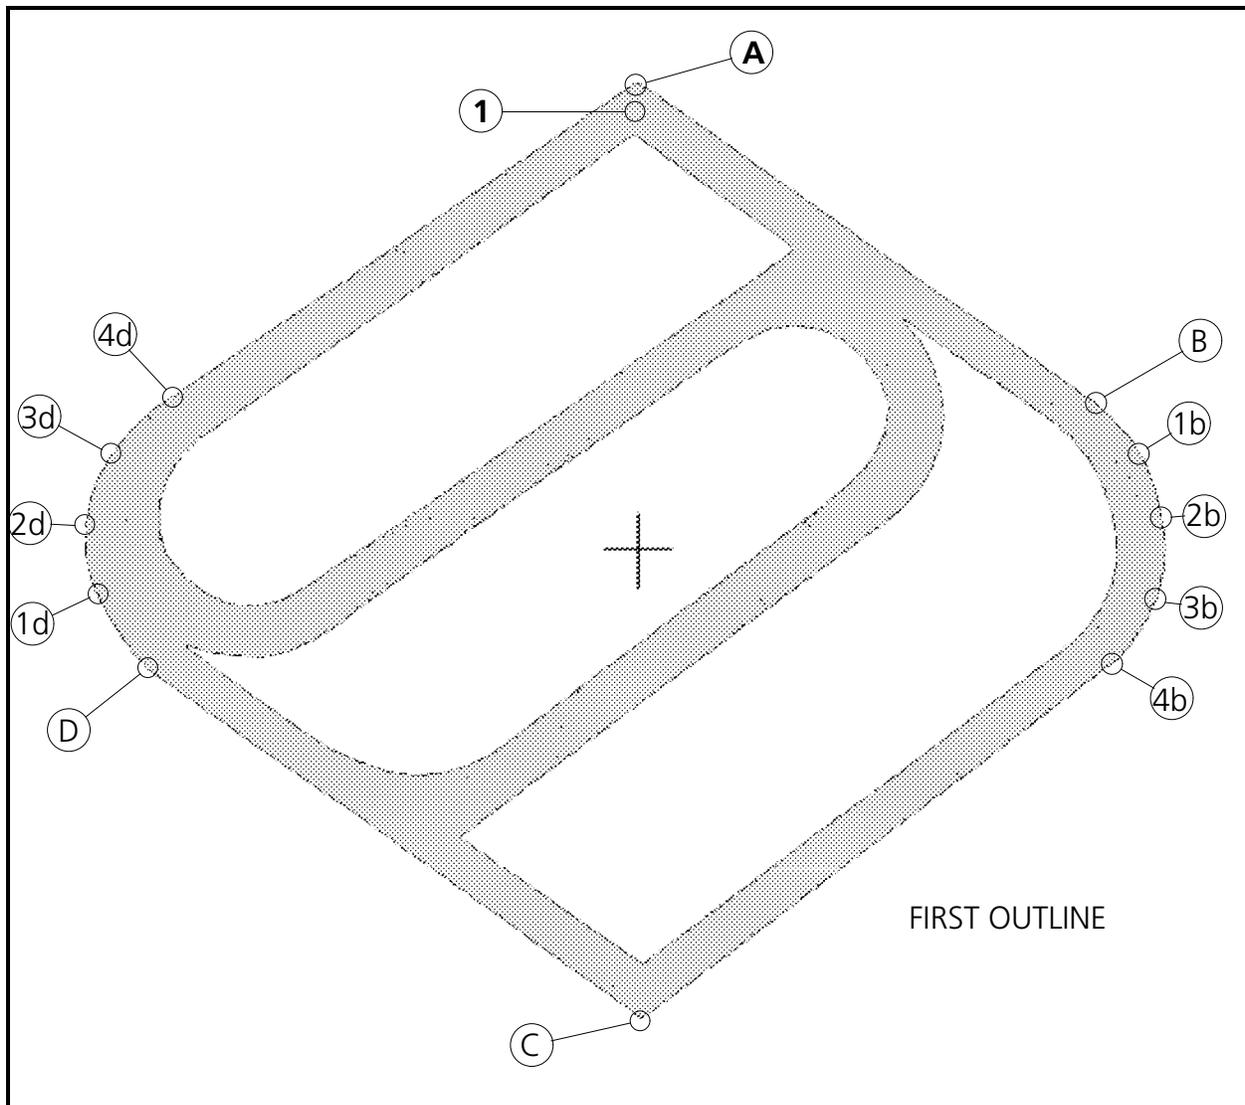

Figure 6-83
2. Click in the area in the shape identified as location 1 in Figure 6-83 and enter a Mk1.
4. Generate the lock stitches at location 1 in Figure 6-83.
1. Enter a Mk1 in the very top of the design shown as item A in Figure 6-83.
2. Enter another Mk1 at approximately point B in Figure 6-83.
3. Now digitize around the curve of the design on the right edge with Mk4s at the approximate locations 1b through 4b as shown in Figure 6-83.
4. Enter another Mk1 at point C on the very bottom corner of the design as shown in Figure 6-83.
5. Enter another Mk1 at point D with Mk4s around the curve of the left edge of the design in the approximate locations shown as 1d through 4d in Figure 6-83.